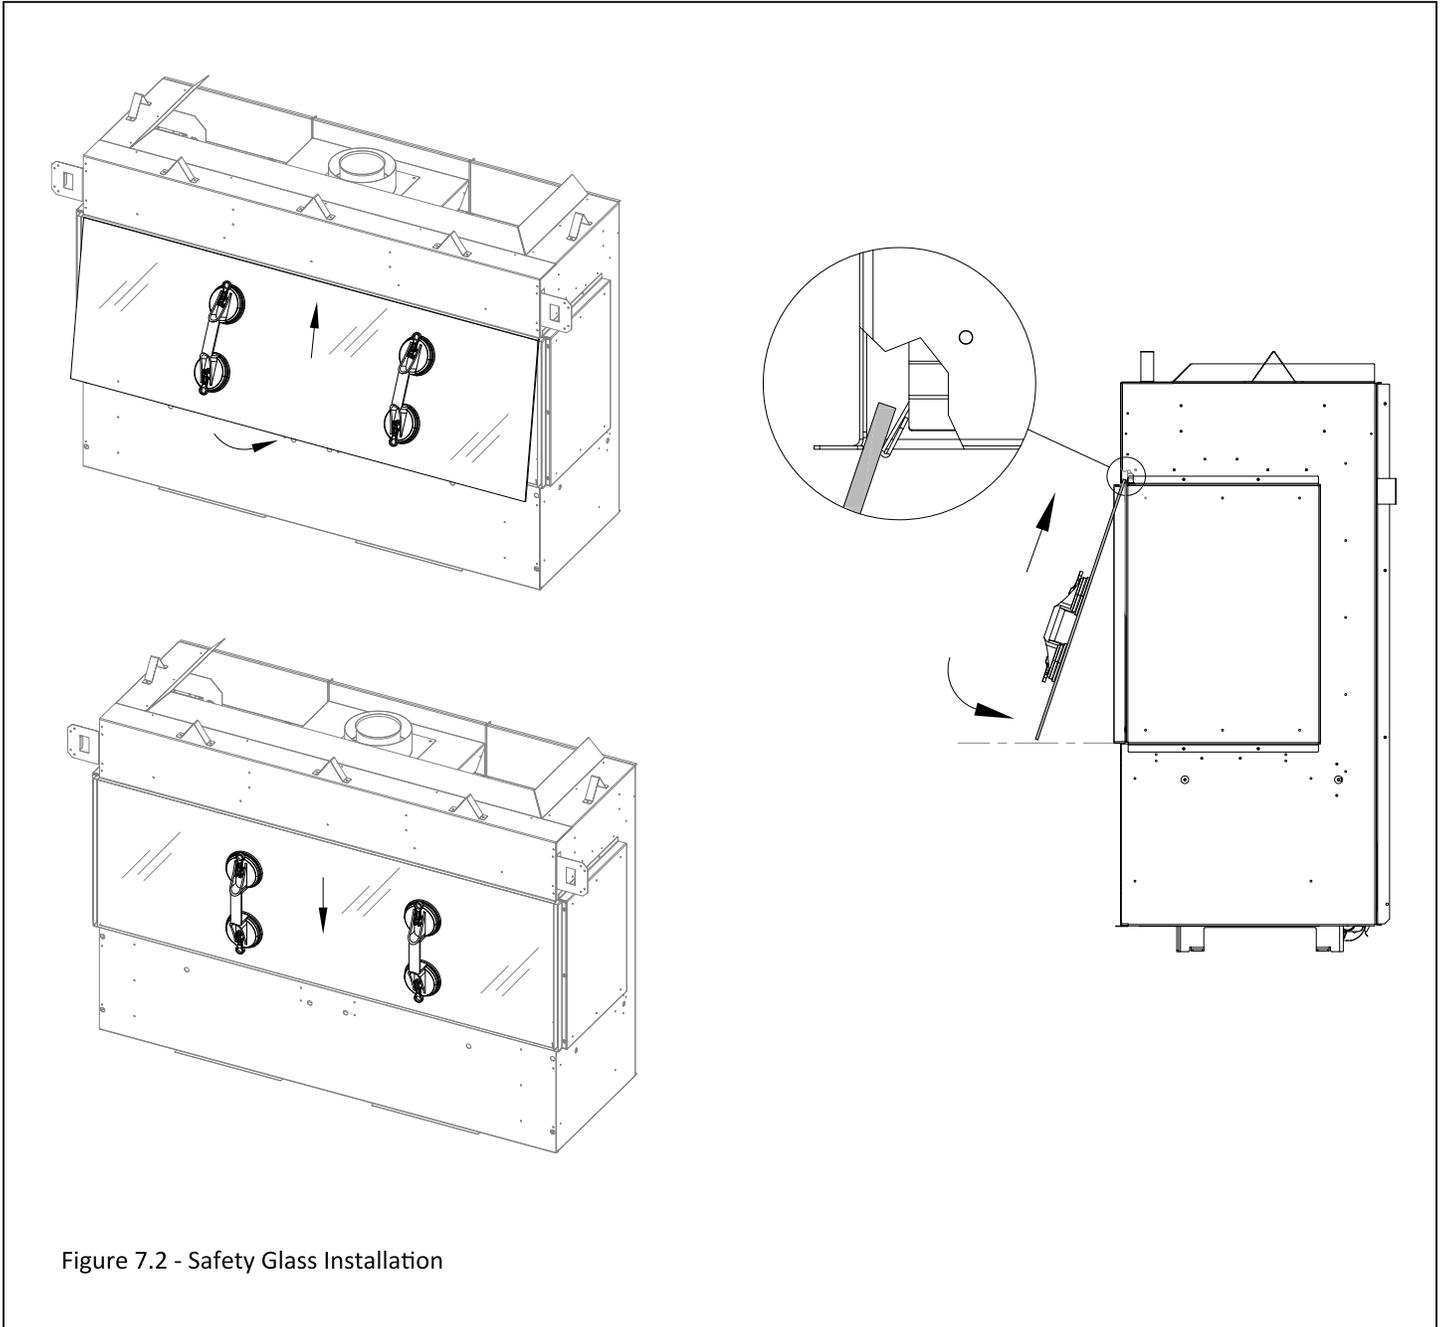

Figure 7.2 - Safety Glass Installation
1. Start with the bottom edge of the glass tilted towards you, slide the top edge of the glass behind the top finishing edge of the fireplace. There is a glass retention bracket behind this top finishing edge (on the inside of the fireplace) that holds the glass. Ensure the glass is sliding into this bracket. See the image on the right in Figure 7.2 for a close up of this support bracket.